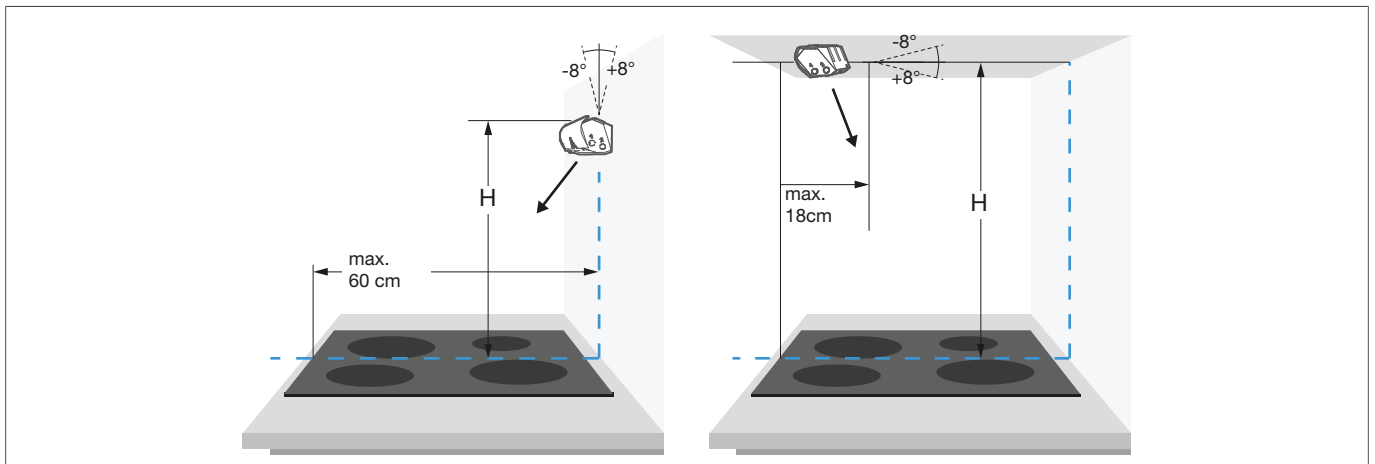

Fig. 8: Wall installation (left); Installation under the extractor hood (right)
The sensor unit can optionally be installed on the wall above the cooker/hob or directly under the extractor hood (Fig. 8). The sensor unit monitors the temperature and use of the cooker/hob and switches off the power supply in the event of an alarm.
- 3 Fasten the mounting bracket (8) to the sensor unit again.
- 5 Attach the sensor unit using the preinstalled adhesive strip (Fig. 8) (optional: Use supplied fixings).
The default settings of the cookguard are to be used for the initial commissioning. If the installation height of the sensor unit or the dimensions of the cooker/hob deviate from the standard values (Bild 8), then commissioning must be carried out manually (see Manual commissioning).
Manual commissioning is only required when the cooker has been replaced, the cooker dimensions and the mounting height of sensor unit deviates from the standard values (Bild 8) or there are frequent false alarms.